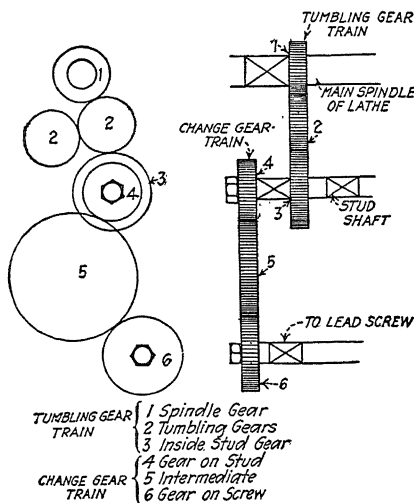

FIG. 180.
When cutting threads in a lathe the motion of the spindle is transmitted to the *stud shaft* by the *tumbler-gear train* and from the *stud shaft* to the *lead screw* by the *change-gear train* (see Fig. 180).
The tumbler-gear train consists of a gear keyed to the spindle, two *tumbler gears* (or *reverse gears*), and the fixed stud gear which is keyed to the inside end of the *stud shaft* (Fig. 180).
(see Fig. 180). A series of different gears called change gears are furnished with the lathe and by changing the sizes of the gears on stud and screw various velocity ratios between the two may be obtained.
**202. Operation of the Gears.**—When the spindle gear and the inside stud gear of the tumbler-gear train (Fig. 180) are of the same size, and the gears on stud and screw are equal, one revolution of the stud shaft will cause one revolution of the lead screw. If the lead screw is  $\frac{1}{6}$ -in. pitch the carriage will advance  $\frac{1}{6}$  in. The number of threads per inch which will be cut on the work will be the same as the number of threads per inch on the lead screw.